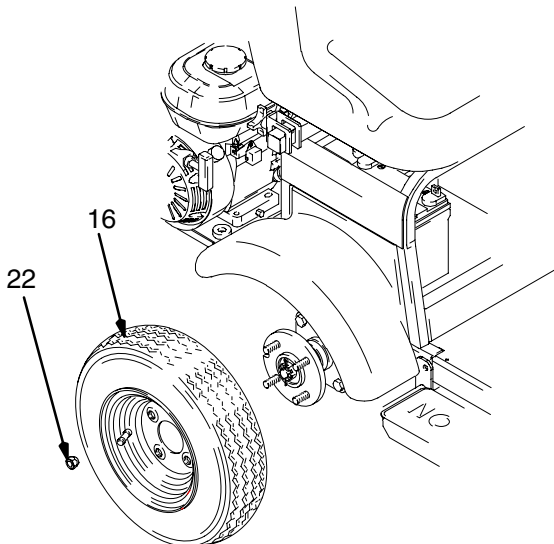

Fig. 3
1. Fig. 3. Set Line Driver on blocks so wheels are off ground.
2. Remove four lug nuts (22) and tire (16).
2. Remove four lug nuts (22a) and tire (16).
3. Remove pin (56), caster nut (21b) and wheel hub (22b). Wheel hub (22b) may require a wheel puller; not supplied by Graco.
4. Disconnect two hydraulic hoses (112) from wheel motor (21a). Elevate hose ends and plug.
5. Remove four bolts (78), lock nuts (79) and wheel motor (21a).